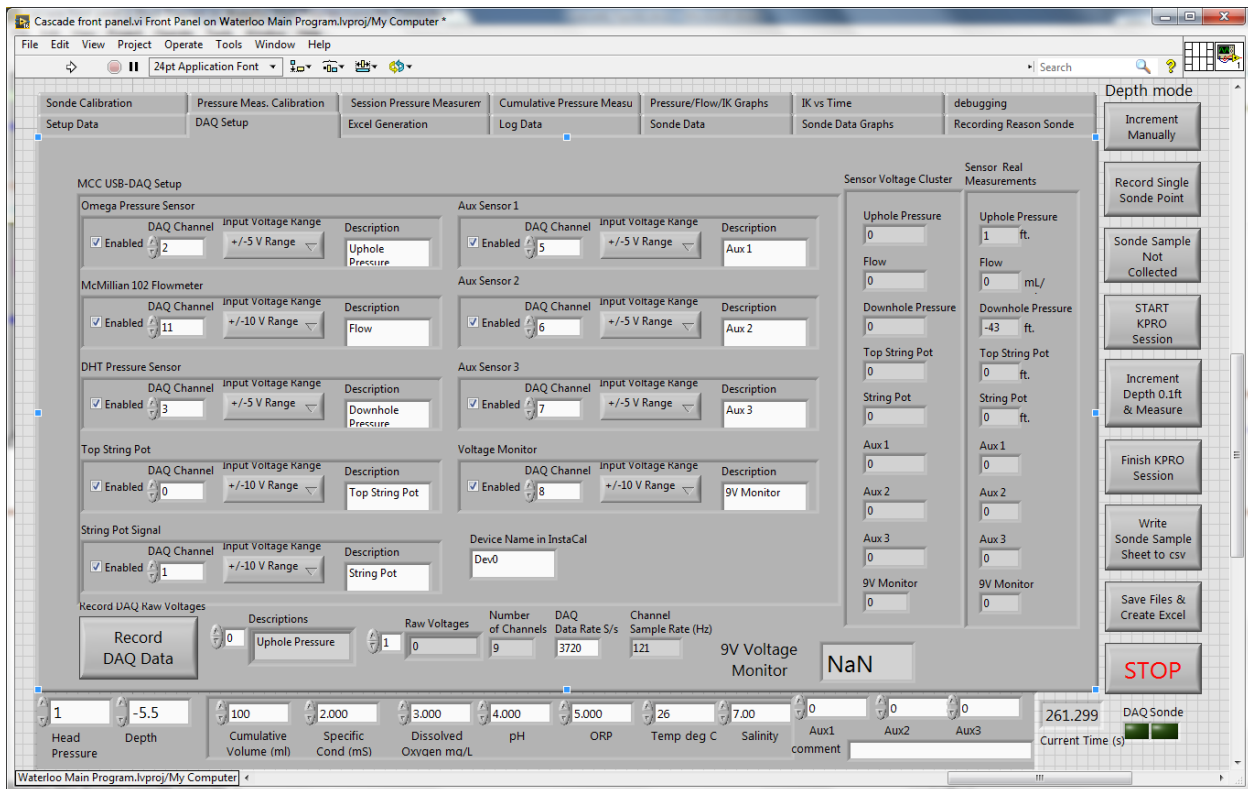
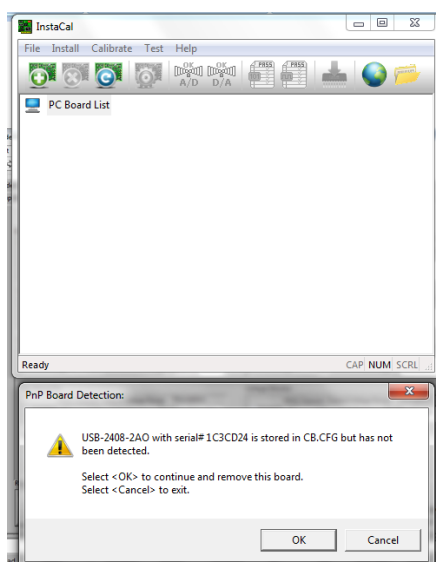

Figure 2: DAQ Setup Tab
Figure 3: Instacal Program Window (top) and Error Warning (bottom)
2. The second tab is the “DAQ Setup Tab,” and is displayed in Figure 2. This tab has controls and indicators that deal with the setup and communications with the Measurement Computing Corporation (MCC) Data Acquisition (DAQ) USB Model USB-2408-2AO, which is a 16 channel (single ended or 8 channel differential) data acquisition module with 2 analog outputs (AO). Setup and control of the MCC DAQ is accomplished through the Instacal program which can be accessed from the start menu and programs tab under “Measurement Computing.” The Instacal program is shown in Figure 3. If the MCC DAQ is found and properly identified, then the “PC Board List” will display the serial number and model number. Since the development computer was not attached to the Waterloo Water Sampling Module, the Instacal program displays the error message shown in the lower window in Figure 3. *The Labview program will not properly communicate the MCC DAQ if the Instacal program does not find the device. When first installing the MCC software and connecting a new MCC DAQ to a computer, the Instacal program will need to be run manually to find and identify the MCC DAQ device and create the CB.CFG file. The device name of the USB device found in the Instacal CB.CFG file is shown in the “Device Name in Instacal” indicator.*
The channel setup for the MCC DAQ occurs in the MCC USB-DAQ Setup Control Cluster shown on the left hand side of Figure 2. This control associates the readings from a specific DAQ channel with the physical measurement. It should not be necessary to change these values except to turn off unused sensors, if desired.